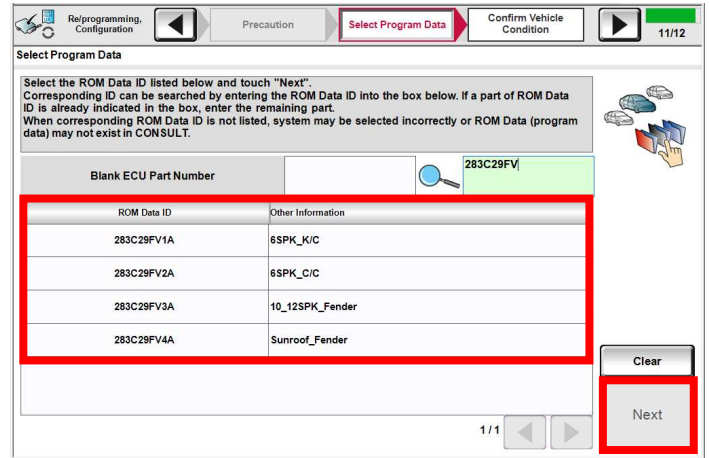

Figure 25
28. Select the appropriate **Rom Data ID** obtained in Table A on Step 27 and select **Next**. (Figure 25)